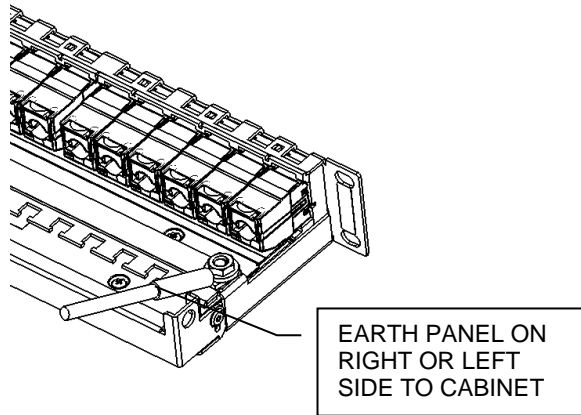

Fig. 12
1. Individually ground (earth) each patch panel to cabinet ground (earth) position by securing grounding lug to panel grounding stud (see Fig. 12).